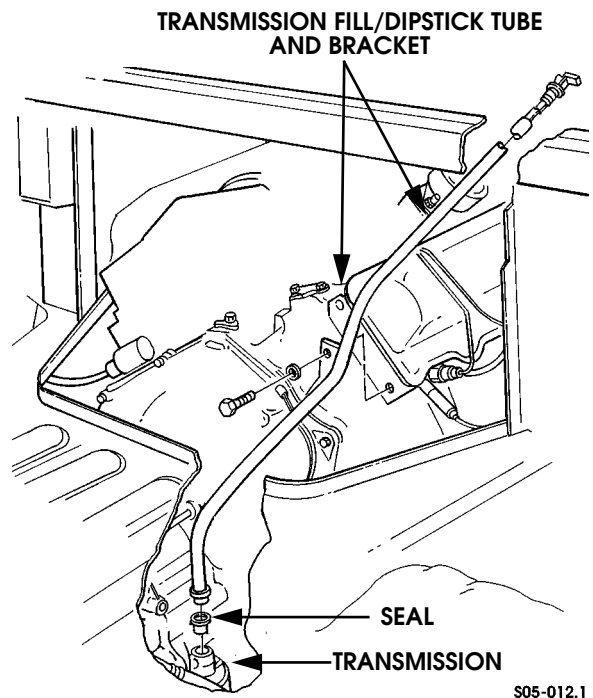

Figure 2-71: Transmission Dipstick Tube
- Remove transmission fill/dipstick tube (Figure 2-71).